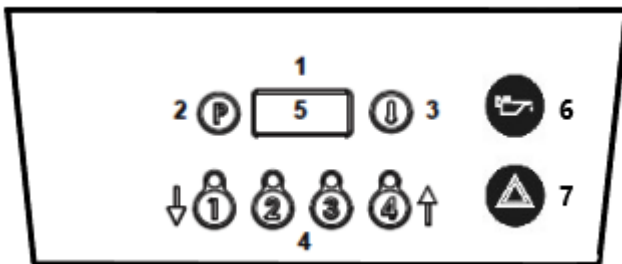

Figure 5 – E3840XP/E3840FXP Control Panel
2.3.4 E3840XP/E3840FXP Fryer Control Panel (See Figure 5)